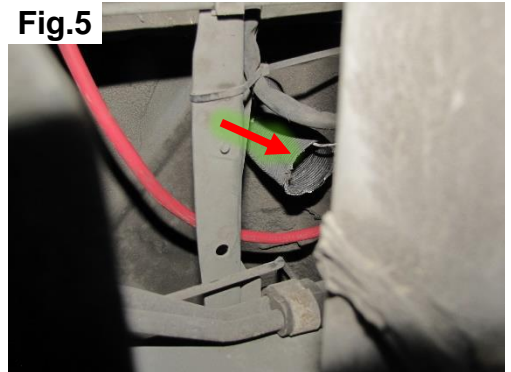

Fig.6
- b. For non-campers you will need to drill another $\frac{1}{2}$ " hole under the passenger seat in front of the positive battery terminal. (as per diagram) (3" from inside wall, 1" from ledge) (Fig.6)